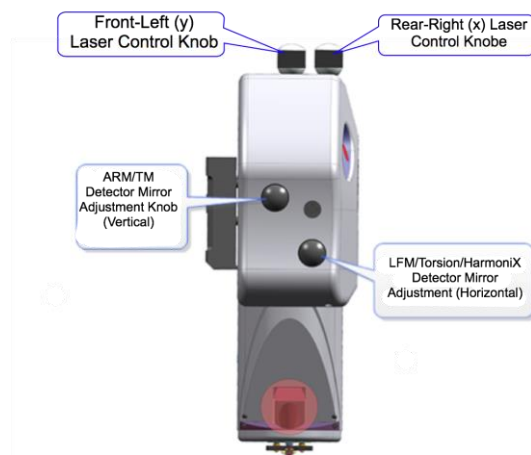

Figure 5. Dimension Icon Scanner Head
14) If the tip is out of focus that prevents the laser alignment, see Step 15. Align the laser on the cantilever and maximize the sum of the signals on the detector using the knobs on the top of the scanner head as shown in Figures 5 & 6. If needed, a video is available in the software to help . Do not turn the knobs too far in one direction, as this can break the mechanism and even worse break parts inside the head. **NEVER FORCE THE KNOBS.**
15) Align the signal on the detector by adjusting the knobs on the left of the scanner head, Figure 5, until the vertical and horizontal deflection are either zeroed or nearly zeroed. 0 ± 0.3 V are acceptable, Figure 7. Again, a video is available in the software to assist you. Do not turn the knobs too far in one direction, as this can break the mechanism and even worse break parts inside the head. **NEVER FORCE THE KNOBS.**